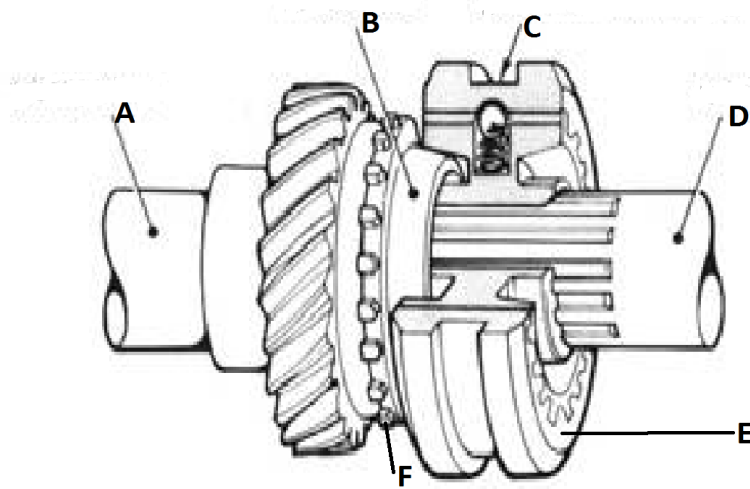

FIGURE 3
- 4.1 Identify the components of the synchronising unit in FIGURE 3 below, by writing the answer next to the letter (A–F) in the ANSWER BOOK.
- 4.2 Explain how the synchronising unit in FIGURE 3 works during a gearchange. (5)